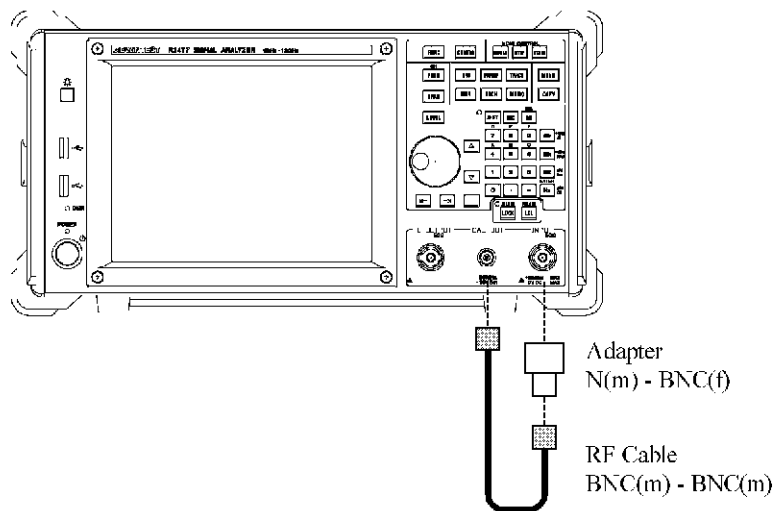

Figure 4-17 Connecting the Instruments
1. Connect the instruments as shown in Figure 4-17.